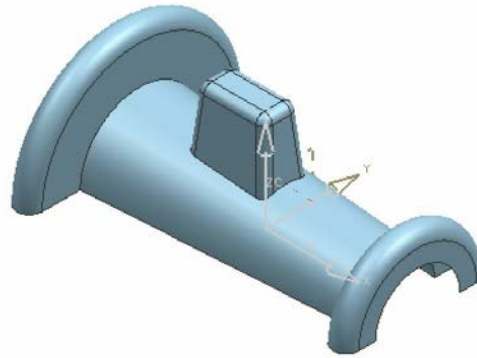

Figure 10-108 The final surface model
3. Choose the **OK** button from the **Edge Blend** dialog box. The completed surface model after adding fillets to edges is shown in Figure 10-108.